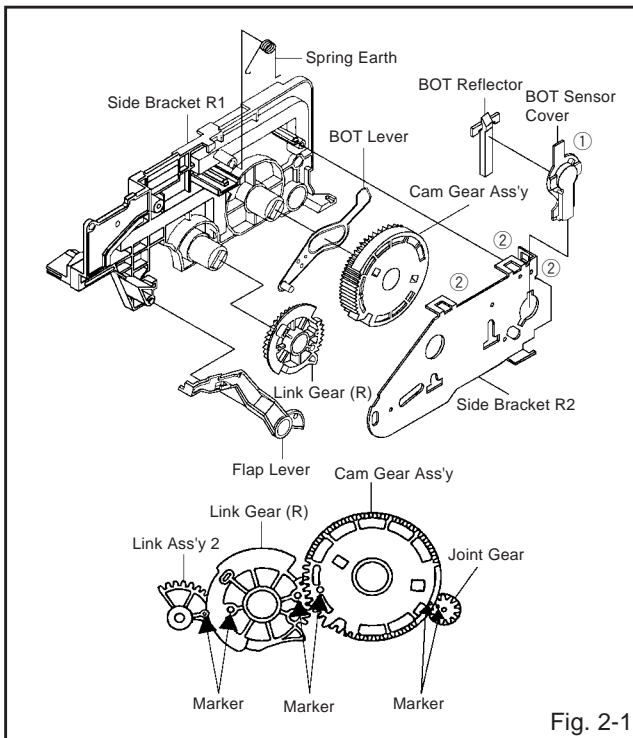

Fig. 2-1
### 2-1: LINK GEAR (R) / CAM GEAR (Refer to Fig. 2-1)
1. Unlock the support ①.
3. Unlock the 3 supports ②.
5. Remove the Flap Lever, Link Gear (R) , Cam Gear Ass'y and BOT Lever.